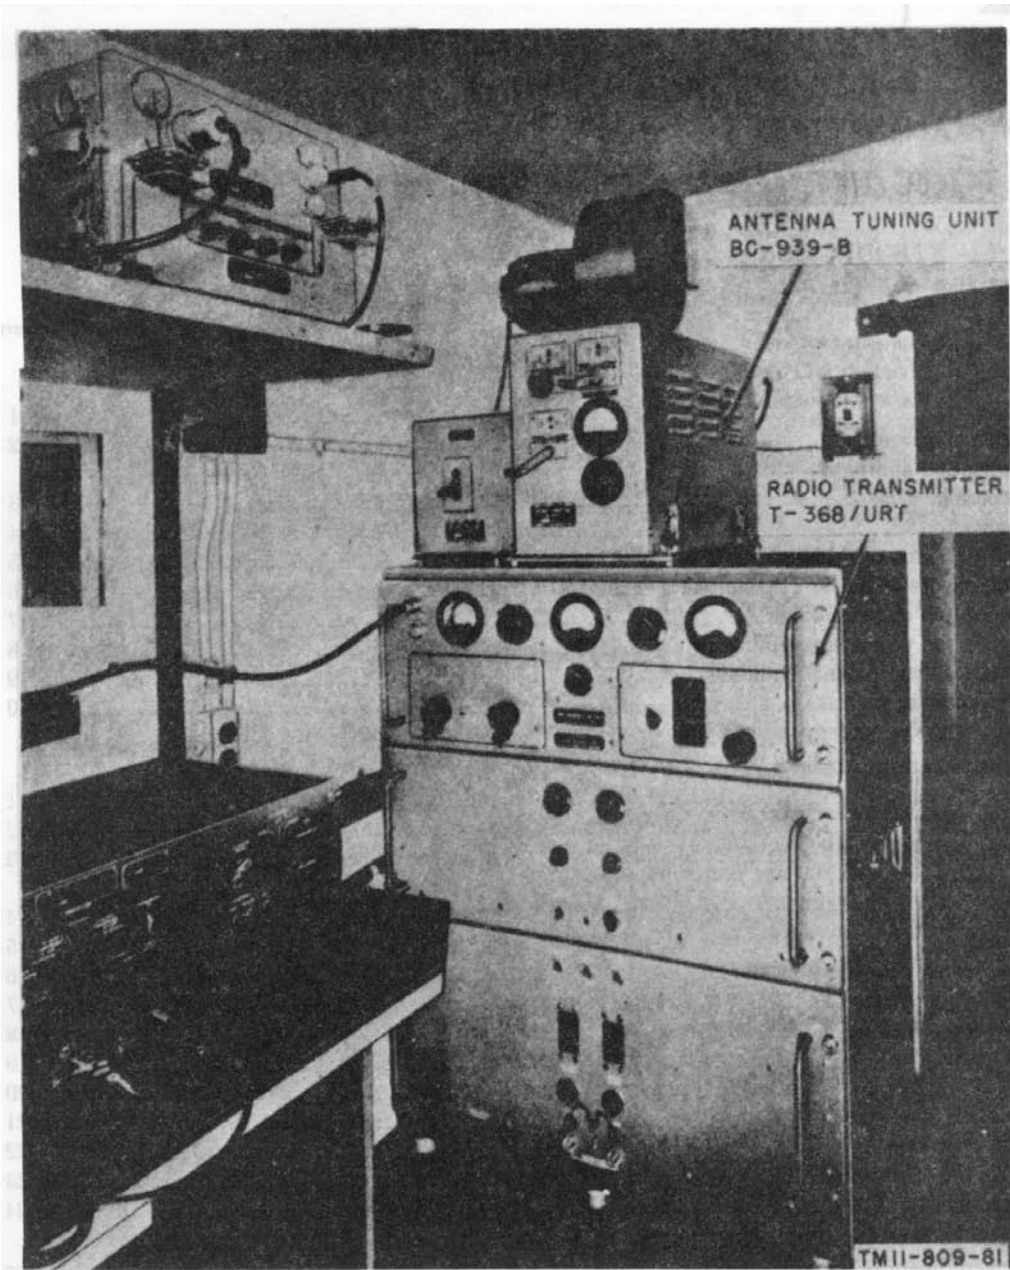
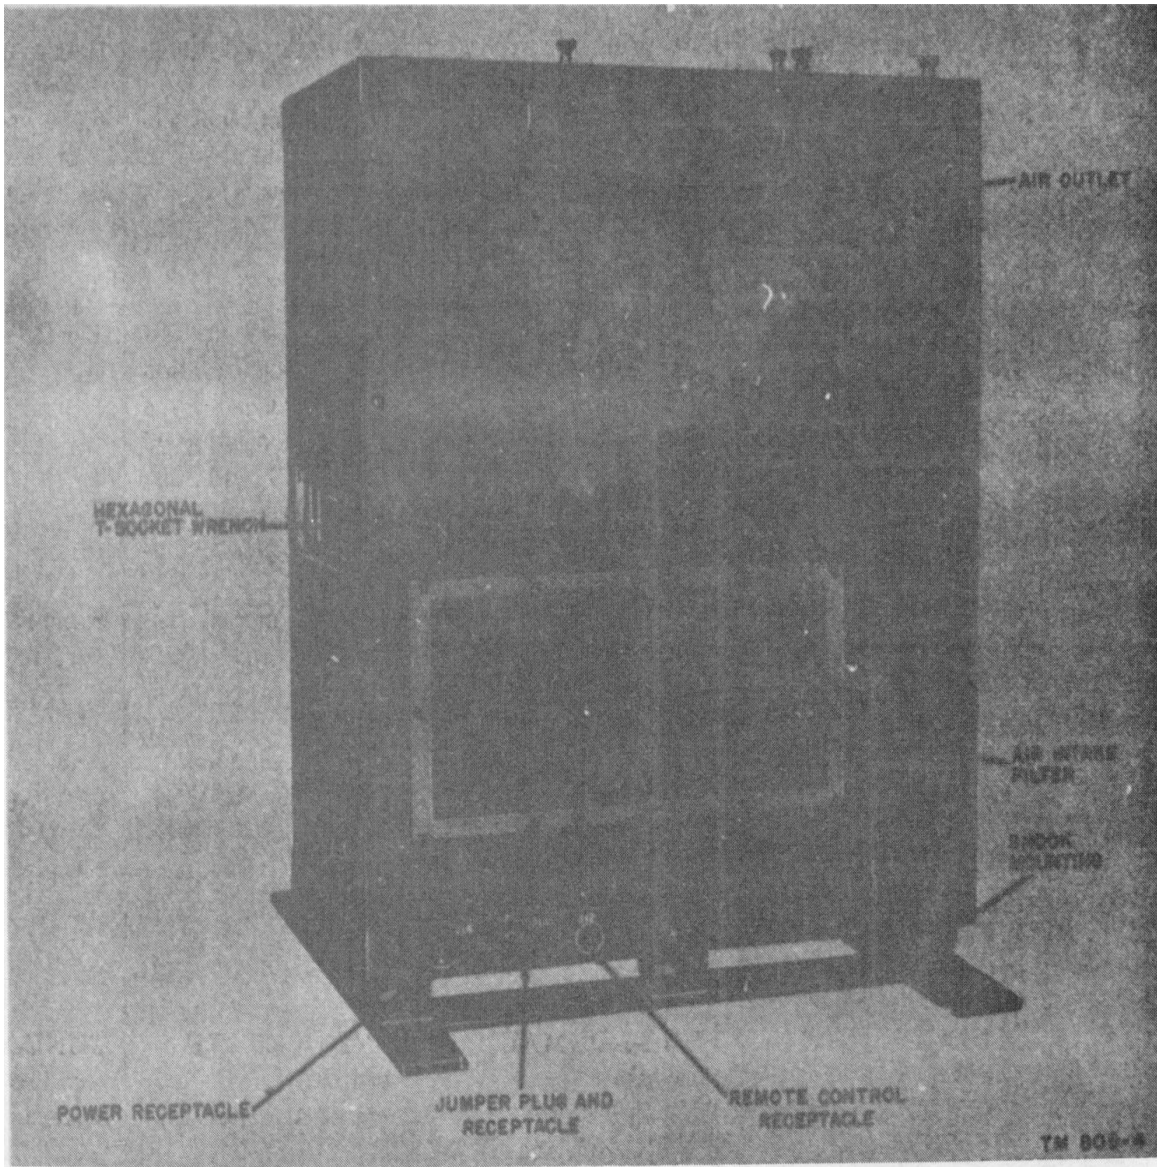
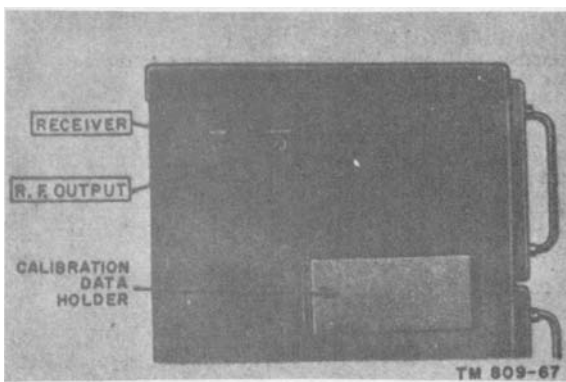

Figure 1. Radio Transmitter T-368/URT and Antenna Tuning Unit BC-939-B.
Figure 4. Transmitter, rear view.
Figure 5. Transmitter housing, left side.
a. General. This manual covers operation and operator's maintenance of Radio Transmitter T-368 (*)/URT and Antenna Tuning BC-939-B (fig. 1). Throughout this manual, Radio Transmitter T-368 (*)/URT is called the transmitter, and Antenna Tuning Unit BC-939-B is called the tuning unit. Appendix I is a list of references applicable to this equipment.
e. The cabinet contains all the interlock switches of the equipment. Three receptacles are located on the rear of the cabinet (fig. 4). The power receptacle permits the application of ac power, the second receptacle seats the jumper plug to permit high-voltage operation, and the third provides means for remote control operation. Two coaxial receptacles (fig. 6) on the left side of the cabinet connect the transmitting antenna to the transmitter and to a receiver (when used) through an antenna change-over relay. A blower, located on the teach panel, improves the ventilation of the equipment; air filters (fig. 4) clean the incoming air. A holder (fig. 5), mounted on the left side, stores the calibration charts used with the transmitter. In Radio Transmitters T-368A/URT and T-368C/URT, the holder is mounted on the right side of the cabinet. Carrying handles for the transmitter (one on each side) when not in use, can be folded into the sides of the housing. A hexagonal T-socket wrench (fig. 4), used for loosening and tightening the panel captive bolts, is mounted in the recess for the right side handle. At the top of the cabinet are two sets of four threaded studs with wing nuts for mounting a switching unit (in Radio Set AN/GLQ-2 2) or Radio Modulator M239/GR (in Radio Set AN/GRD-26D) and an antenna tuning unit (fig. 1). A THERMAL RESET button (fig. 6) on the top of the upper front section of the cabinet permits manual re-setting of the thermostat, which is mounted on the inside top of the cabinet. Radio Transmitters T-368/URT and T-368B/URT have sex shock mounts (fig. 4) which attach to a flat rectangular plate. On the other transmitters eight shock mounts
8. Description of Antenna Tuning Unit (fig. 1)
a. *Power Input.* Power Cord CD-763 should be connected between the power receptacle (fig. 4) and the ac line.
(1) The connection from a doublet antenna (if used) to the R.F. OUTPUT receptacle (fig. 5).
(2) When the antenna tuning unit is used, check:
(a) Coaxial cable between the R. F. OUTPUT receptacle (fig. 5) and the input terminals on the side of the tuning unit.
c. *Associated Receiver.* In an installation where an associated receiver uses the same antenna, check the connection at the RECEIVER receptacle (fig. 5).
(1) In lettered models used with Radio Modulator MD-239/GR, check the two cables from the EXT EXC and FSK connectors of the transmitter to the MO IN and FSK OUT connectors of the modulator.
(2) When Radio Modulator MD-239/GR is not used, check the connection of the frequency-shift exciter cable to the FSK receptacle.
h. *FSK-AM Transmission.* Make the checks given in e and g(1) or (2) above.